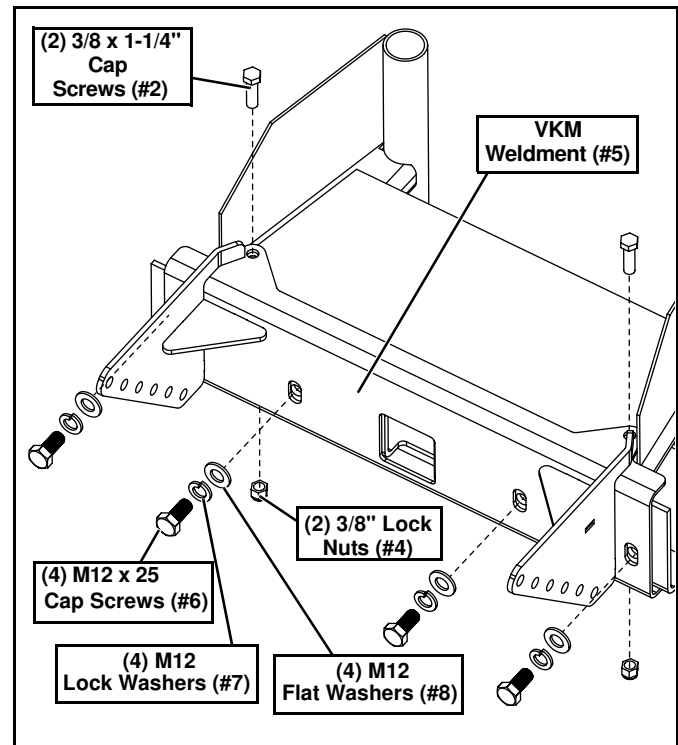

Figure 2
4. Place the VMK Weldment (#5) tabs on top of the cover and push up against the bumper. Place (2) 3/8" x 1-1/4" Cap Screws (#2) thru the top holes of the VMK Weldment (#5) into the top cover and frame. Secure with (2) 3/8" Lock Nuts (#4). (See Figure 2.)
5. Insert (4) M12 X 25 Cap Screws (#6), (4) M12 Lock Washers (#7), and (4) M12 Flat Washers (#8) thru front holes of VMK Weldment (#5) and into bumper. (See Figure 2.)